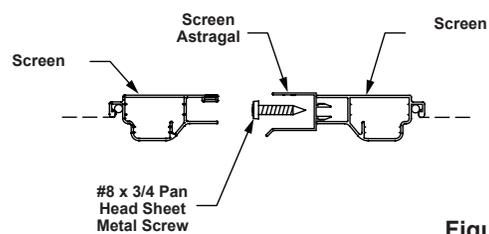

Figure 16
- Holding the astragal in place on the edge of the screen, drill an 1/8" hole into the interior screen wall. After drilling the first hole, screw the astragal to the screen using a #8 x 3/4" pan head screw to hold it in place while drilling the rest of the holes (Figure 16).